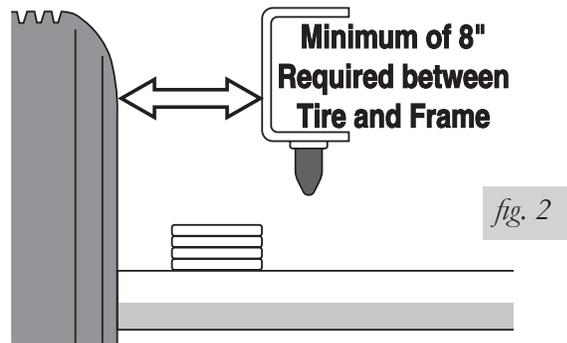

fig. 2
1. Raise the vehicle, remove the wheels, and obtain normal ride height (Figures 2 and 3).